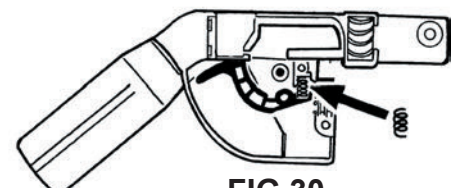

FIG 30
2. Fit throttle inter-lock compression spring (Fig 30).